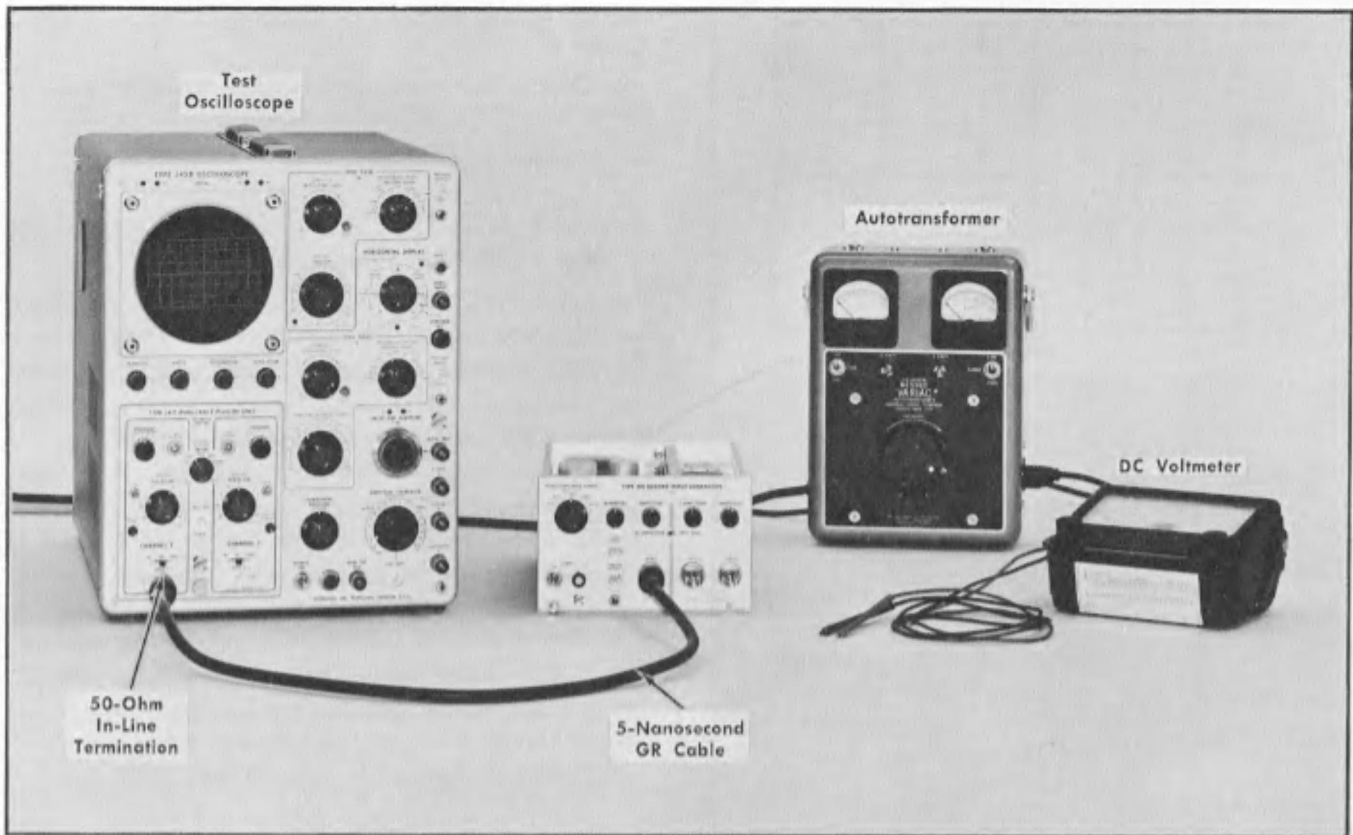

Fig. 6-3. Initial test equipment setup for steps 1 — 5.
- a. Test equipment setup is shown in Fig. 6-3.